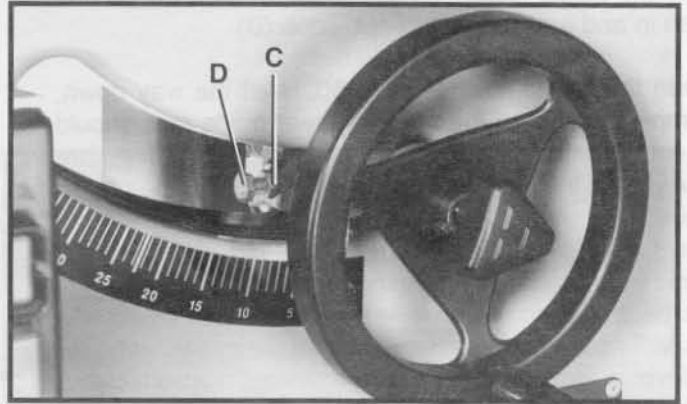

Fig. 47
4. Turn the blade tilting handwheel counterclockwise as far as it will go. Using a square, check to see if the blade is at 45 degrees to the table. If an adjustment is necessary, turn the blade tilting handwheel clockwise until the adjusting screw (D) Fig. 47, and locknut (C) are in view, in the opening in the front of the saw cabinet, as shown. Loosen locknut (C) and tighten or loosen adjusting screw (D) until head of screw (D) contacts casting on front trunnion when the blade is at 45 degrees to the table. Then tighten locknut (C).